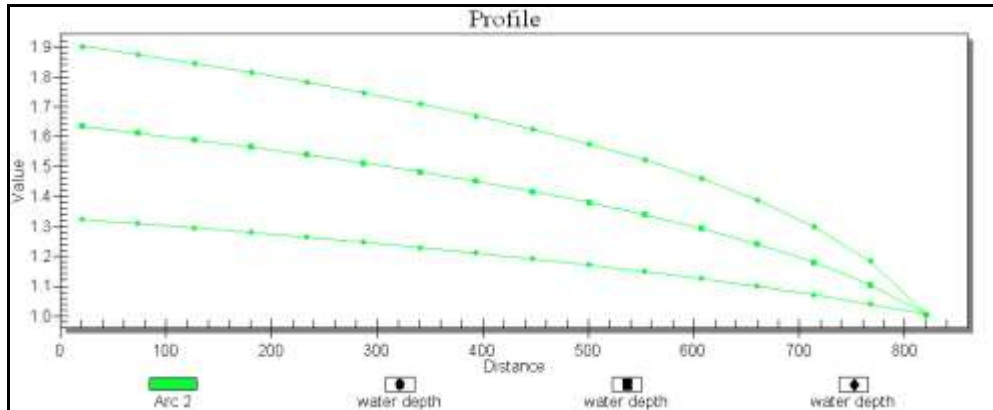

Figure 3 Water depth with varied roughness parameters.
9. Repeat steps 2-8 except change the  $n$  value to 0.065, and save the file as “flumea3.sms”. The plot should now look like Figure 3.